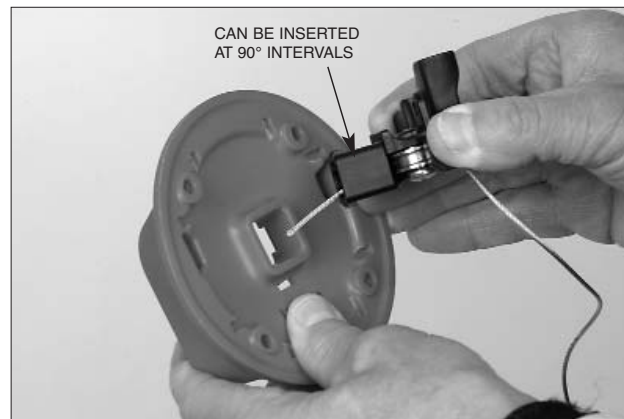

FIGURE 71
1. The block can be inserted into the faceplate at 90° intervals. See Figure 71.